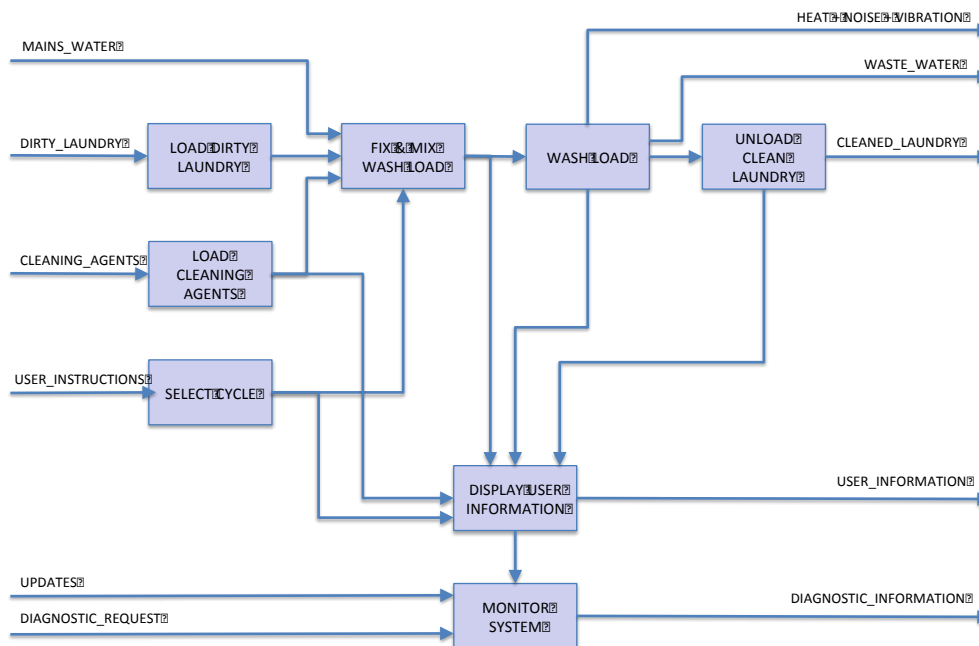

Figure 1: A Sequence Diagram for a Domestic Automatic Washing Machine
A Sequence Diagram¹ is a schematic model of the system of interest that defines the sequence of activities, functions or process steps that convert the inputs into the outputs. It allows a team or an individual to produce a high-level diagram of an existing or planned system that not only defines the boundary of the system of interest but the necessary internal system functionality. Figure 1 shows a Sequence Diagram for a domestic Automatic Washing Machine.
In Figure 1 time flows from left to right and therefore the inputs are on the left hand side and the outputs on the right. The grey boxes are the functions/activities of the system. The connecting arrows show how the basic functionality has to logically cooperate in order the transform the system inputs into the system outputs. In this case dirty laundry into cleaned laundry.
It is also very important when starting to construct a Sequence Diagram that the team understand the context of the problem, particularly that related to the lifecycle phase. For any System of Interest it is often possible to construct a variety of Sequence Diagrams for different points in time. Figure 1, for example, shows an installed domestic automatic washing machine doing its day-by-day activity; i.e. washing dirty cloths. In other words, it shows the operational phase of the system’s life cycle. It is possible to construct other lifecycle views such as installing or repairing a washing machine. The fact we can view any system from many different perspectives is important to recognise when constructing a Sequence Diagram. It is essential that the perspective is defined clearly and everybody in the team is clear what view is being taken. Some projects may demand that we capture several perspectives. In such instances, it is recommended to start with the day-to-day operation of the System of Interest and then consider the other views later.
- The initial drafting of a Sequence Diagram should consider every possible input and output. This often results in a very “busy” diagram and there is a tendency to either ignore inputs or outputs because they are considered not important. It is preferable to capture all these and rationalise and simplify the diagram later. Indeed, having captured all the inputs and outputs the diagram can be simplified by collecting similar inputs or outputs together and creating a collective-name that can be captured in the system dictionary. For example, the washing machine shown in Figure 1 has the input labeled “CLEANING_AGENTS”. This is a grouped input comprising detergent, fabric softener, water softener, stain removers, bleach and or dye stuff. But do keep a dictionary to record any definitions of any inputs or outputs. For example CLEANING_AGENTS can be defined in the dictionary as